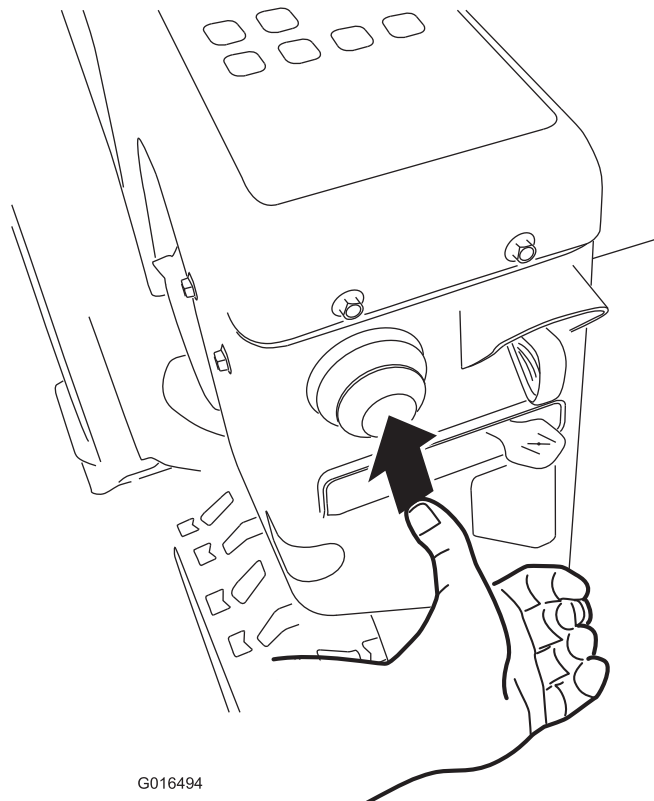

Figure 21
4. Firmly push in the primer with your thumb 3 times, holding the primer in for a second before releasing it each time (Figure 21).